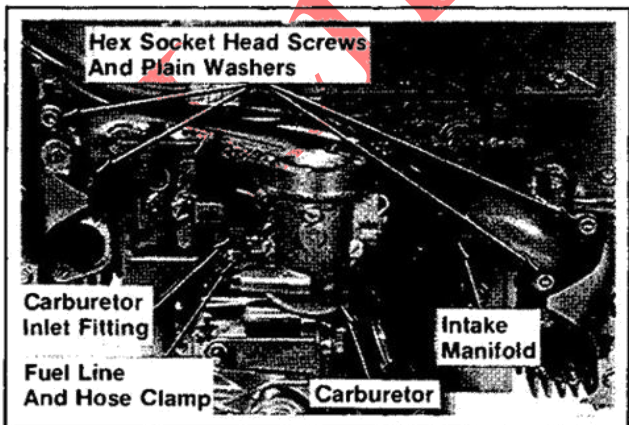

Figure 11-51. Installing Intake Manifold With Carburetor.
3. Install the gaskets, intake manifold with carburetor, plain washers, and hex socket head screws. Torque screws to 150 in. lb. Refer to Figure 11-51.